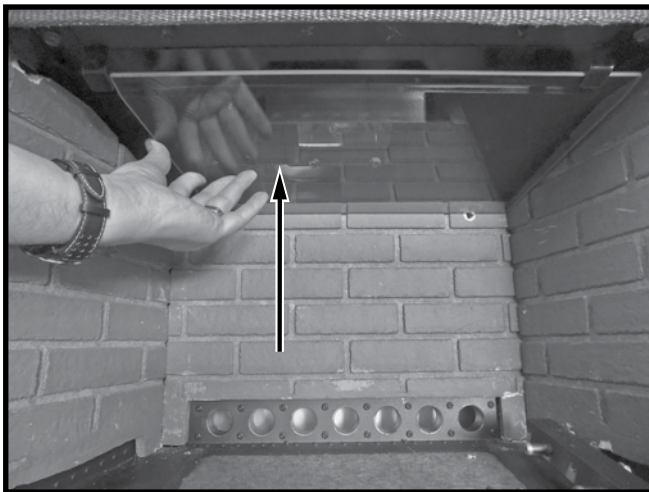

Figure 30: Raising baffle above front support.
2. Raise the opposite end of the baffle so that it is raised above the supports on the other side of the firebox (Figure 30).